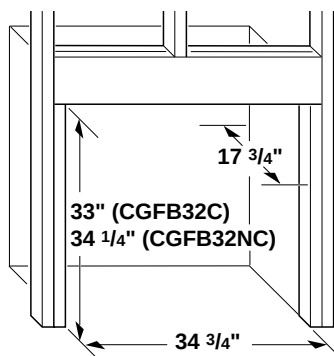
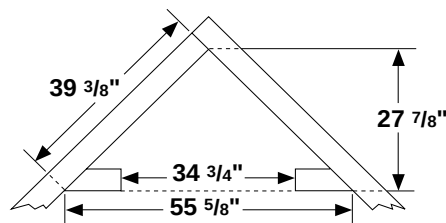

Figure 16 - Rough Opening for Installing in Wall
Figure 17 - Rough Opening for Installing in Corner
1. Frame in rough opening. Use dimensions shown in Figure 16 for the rough opening. If installing in a corner, use dimensions shown in Figure 17 for the rough opening. The height is 33", which is the same as the wall opening in Figure 16.